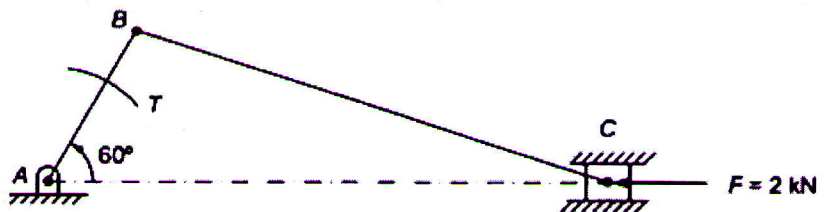

Fig. 5
- 17 a) In the slider-crank mechanism shown in Fig. 5, the value of force applied to the slider is 2 Kn. The link dimensions are $AB = 80$ mm, $BC = 240$ mm, and $\theta = 60^\circ$. Determine the forces on various links and driving torque T. 8
- b) What is the principle of virtual work? Using this principle establish the relation between torque (T) and slider force (F) for the mechanism shown in Fig. 5. 6